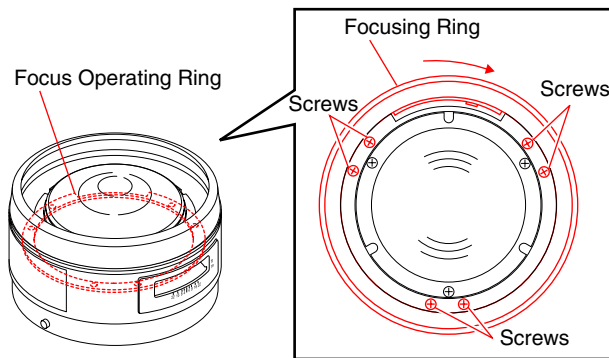

Fig.4-4-7
- 5) Loosen the six screws fixing the focusing ring set plate, and set the focusing ring to the infinity stop position without moving the helicoid. (Refer to Fig.4-4-7.)